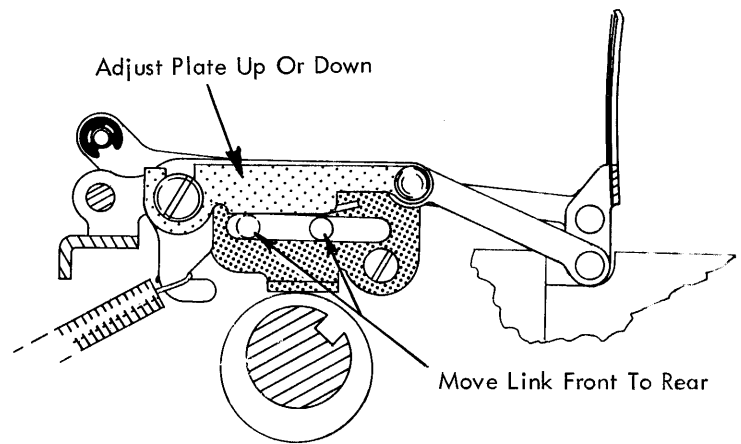

FIGURE 267. Ribbon Lift Guide Plate Adjustment
5. Ribbon Lift Guide Plate - Adjust the plate as low as possible without causing a change in the ribbon lift guide height as the ribbon lift lever is moved from the low lift to the high lift position (Fig. 267). The ribbon lift cam should be at the low point when the check is made.